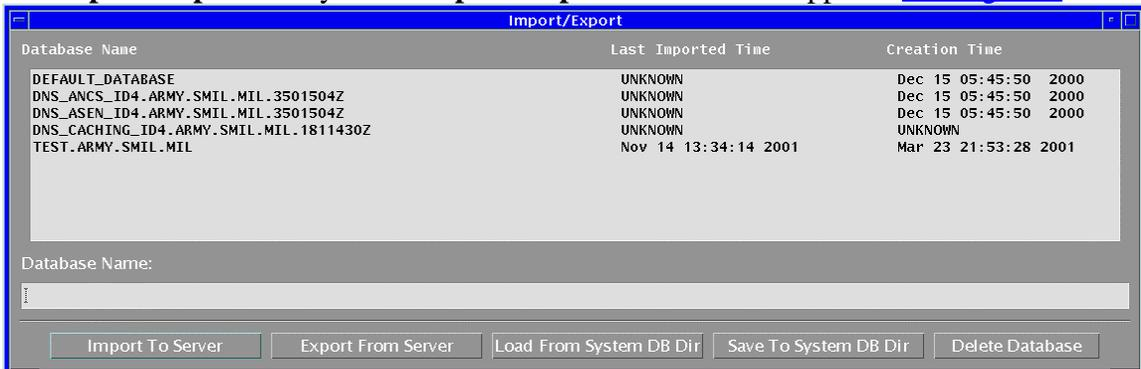

Figure 4 – Import/Export
6. From the **DNS Toolbox** submenu select the **DNS/DHCP Database Import/Export** utility. The **Import/Export** window will appear. See Figure 4.
41. From the **DNS Toolbox** submenu select the **DNS/DHCP Database Import/Export** utility. The **Import/Export** window will appear. See Figure 4.
44. The file will be copied into the **Import/Export** window (Figure 4).